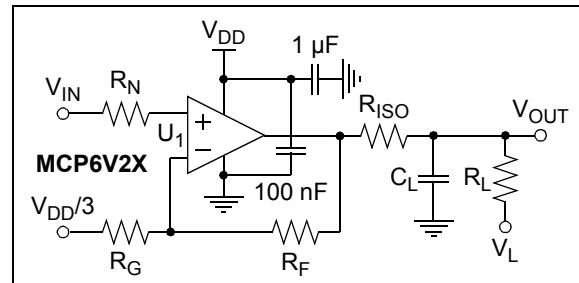
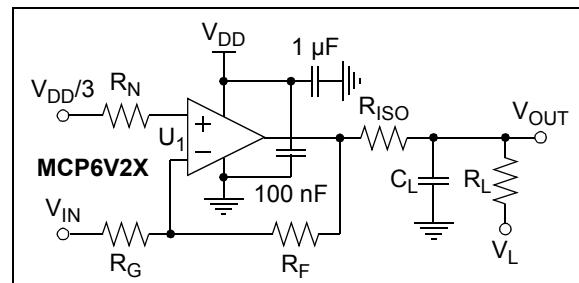

FIGURE 1-5: AC and DC Test Circuit for Most Non-Inverting Gain Conditions.
FIGURE 1-6: AC and DC Test Circuit for Most Inverting Gain Conditions.
Electrical Characteristics: Unless otherwise indicated, $T_A = +25^\circ\text{C}$ , $V_{DD} = +2.3\text{V}$ to $+5.5\text{V}$ , $V_{SS} = \text{GND}$ , $V_{CM} = V_{DD}/3$ , $V_{OUT} = V_{DD}/2$ , $V_L = V_{DD}/2$ , $R_L = 10\text{ k}\Omega$ to $V_L$ and $\text{CS} = \text{GND}$ (refer to <a href="#">Figure 1-5</a> and <a href="#">Figure 1-6</a> ).
**Electrical Characteristics:** Unless otherwise indicated,  $T_A = +25^\circ\text{C}$ ,  $V_{DD} = +2.3\text{V}$  to  $+5.5\text{V}$ ,  $V_{SS} = \text{GND}$ ,  $V_{CM} = V_{DD}/3$ ,  $V_{OUT} = V_{DD}/2$ ,  $V_L = V_{DD}/2$ ,  $R_L = 10\text{ k}\Omega$  to  $V_L$ ,  $C_L = 60\text{ pF}$  and  $CS = \text{GND}$  (refer to Figure 1-5 and Figure 1-6).
Electrical Characteristics: Unless otherwise indicated, $T_A = +25^\circ\text{C}$ , $V_{DD} = +2.3\text{V}$ to $+5.5\text{V}$ , $V_{SS} = \text{GND}$ , $V_{CM} = V_{DD}/3$ , $V_{OUT} = V_{DD}/2$ , $V_L = V_{DD}/2$ , $R_L = 10 \text{ k}\Omega$ to $V_L$ , $C_L = 60 \text{ pF}$ , and $CS = \text{GND}$ (refer to Figure 1-5 and Figure 1-6).
The circuits used for the DC and AC tests are shown in Figure 1-5 and Figure 1-6. Lay the bypass capacitors out as discussed in Section 4.3.10, Supply Bypassing and Filtering.  $R_N$  is equal to the parallel combination of  $R_F$  and  $R_G$  to minimize bias current effects.